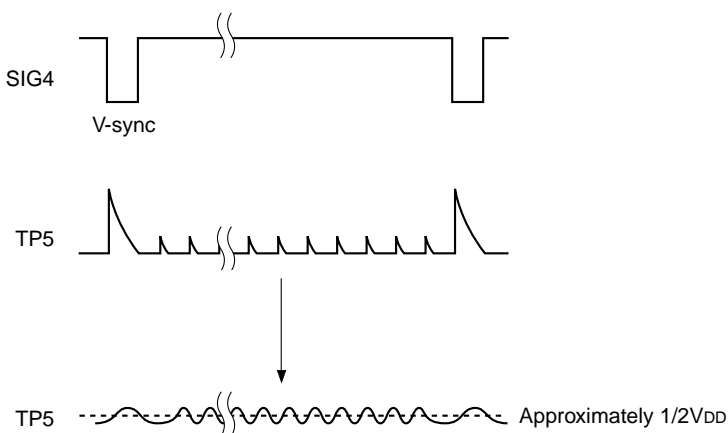

Fig. 1-2. Horizontal AFC adjustment (when using the internal VCO)
Input SIG4 (VL = 0mV) to (A) and adjust serial bus register VCO so that the TP5 phase comparison output waveform is flat. (See Fig. 1-2.)